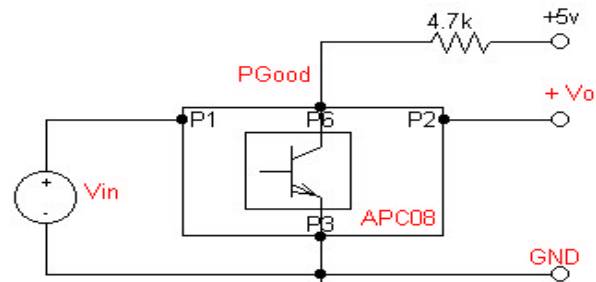

Figure 6. PGood setup.
7. See Figure 6 for PGood configuration
PG pin provides an output signal indicating the V_{out} is operational (TTL logic signal). It can sink current up to a max of 5mA and can have a maximum external pull-up voltage of 6V. Please see recommended setup shown on Figure 6.